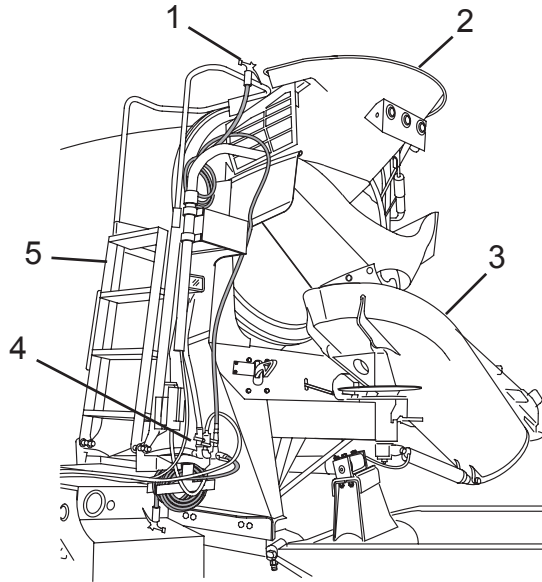

Figure 92
5. Turn on the wash-out hose valve (Figure 92, Item 4).
6. Unfold the access ladder (Figure 92, Item 5).
7. Using the wash-out hose (Figure 92, Item 1), start at the top and wash out the charge hopper (Figure 92, Item 2), the interior of the drum, the main chute (Figure 92, Item 3), and chute extensions.